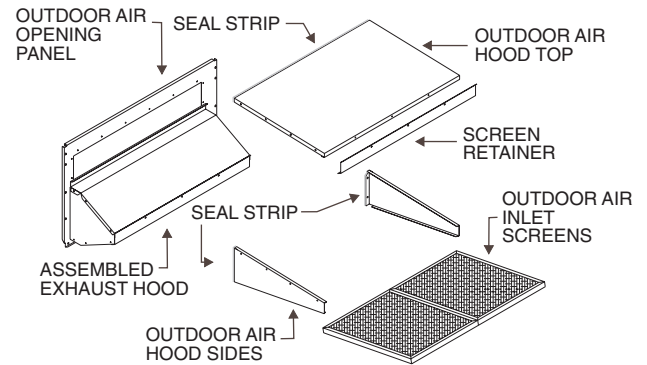

Fig. 34 — Outdoor Air Hood Assembly
4. Install the $\frac{1}{8} \times \frac{3}{4}$ in. seal strip on the outdoor air hood top and side panels. Assemble the outdoor air hood to the outdoor air opening panel as shown in Fig. 34, using the screws provided. *Do not attach hood assembly to the unit at this time.*